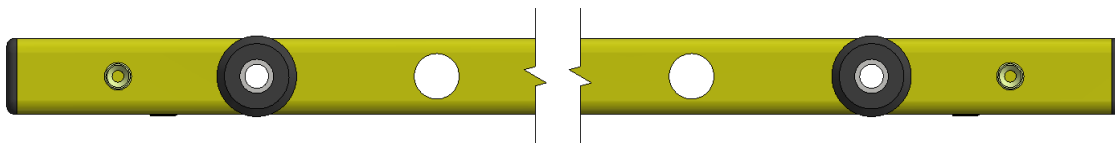

Figure 3: Machine Guard Corner Mounting Tube Assembly
- Insert Machine Guard Isolators (p/n 34-262) in the large holes as shown in the view below (Figure 3).